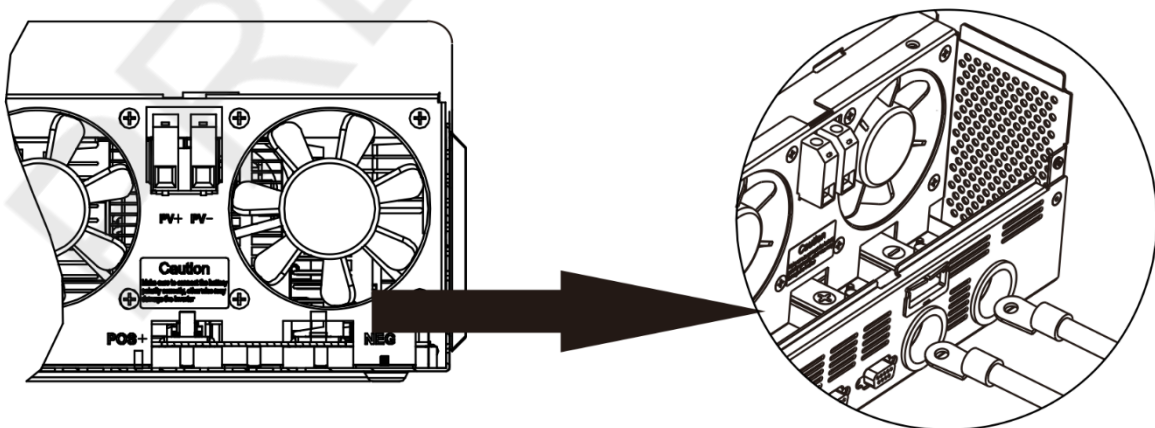

Fig. 6: Battery connection
- Remove the pre-installed nuts from the battery terminal bolts. Insert the ring terminal of the battery cables through the casing holes and flat onto the corresponding battery terminal (**Fig. 6**). Screw down the previously removed nuts with a torque of 2 ~ 3 Nm (1.5 ~ 2.2 lbf.ft). Ensure the ring terminals sit flush on the connectors.